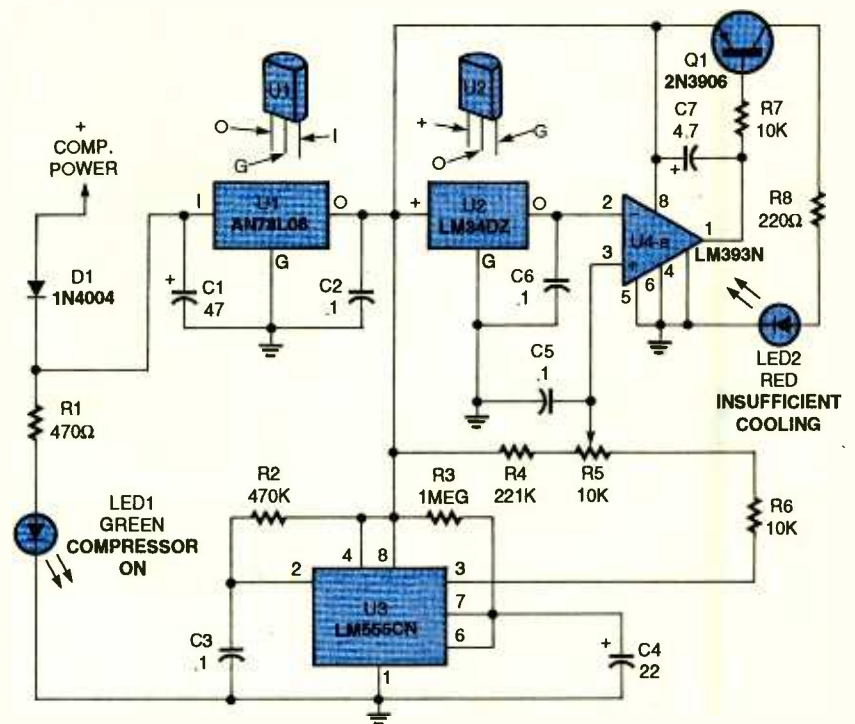

Fig. 2. Power for the Air-Conditioner Monitor is derived from the +12-volt power lead that feeds the magnetic clutch of the air-conditioning compressor.
Fig. 2. Here we show a competition controller (A) with forward and brake capabilities and an economy controller (B) with forward, reverse, and brake functions. Both use paralleled FET's that are pulsed on and off at a variable rate to supply power to the motor. The more FET's in parallel, the less the voltage drop across the controller, and the greater the power supplied to the motor.
**High-End Receivers and Transmitters.** When I purchased my second car, I decided to go with an electronic speed controller. That device uses paralleled FET's that are pulsed on and off at a variable rate to supply power to the motor (see Fig. 2). An electronic speed controller plugs right into the receiver, eliminating the need for—and weight of—a throttle servo. The speed controller can sell for about \$60 by itself, but I bought it in a package that comes with the speed controller, a pistol-type radio (with a steering wheel to steer and a trigger for the throttle), and one servo for steering, all for about \$100. The new radio also included circuitry that eliminated the need for a separate battery pack for the receiver—a requirement for the new car, which had no place to put the extra battery pack. The new radio also replaced the steering stick with a wheel, which makes driving a car more realistic.
**About the Circuit.** Refer to the schematic diagram in Fig. 2. Power for the Air Conditioner Monitor is derived from the +12-volt power lead that feeds the magnetic clutch of the air-conditioning compressor. Thus, the circuit is active only when cooling is demanded of the A/C system.